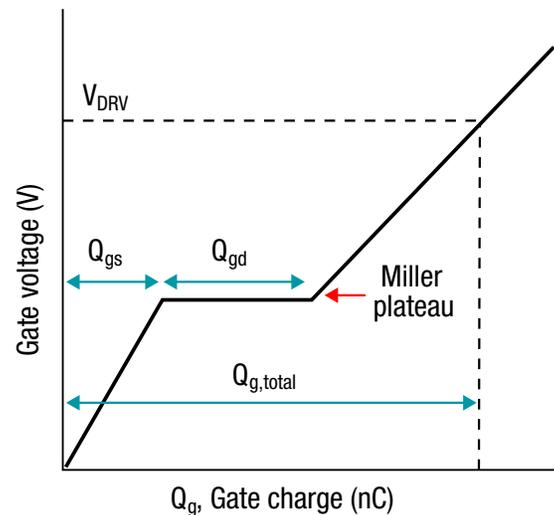

Figure 11: Device gate charge plot
**Figure 11.** The average current required to charge the device from when  $V_{gs}$  increases past  $V_{th}$  to the maximum drive voltage,  $V_{DRV}$ , in a time of  $t_{on}$  is calculated as: